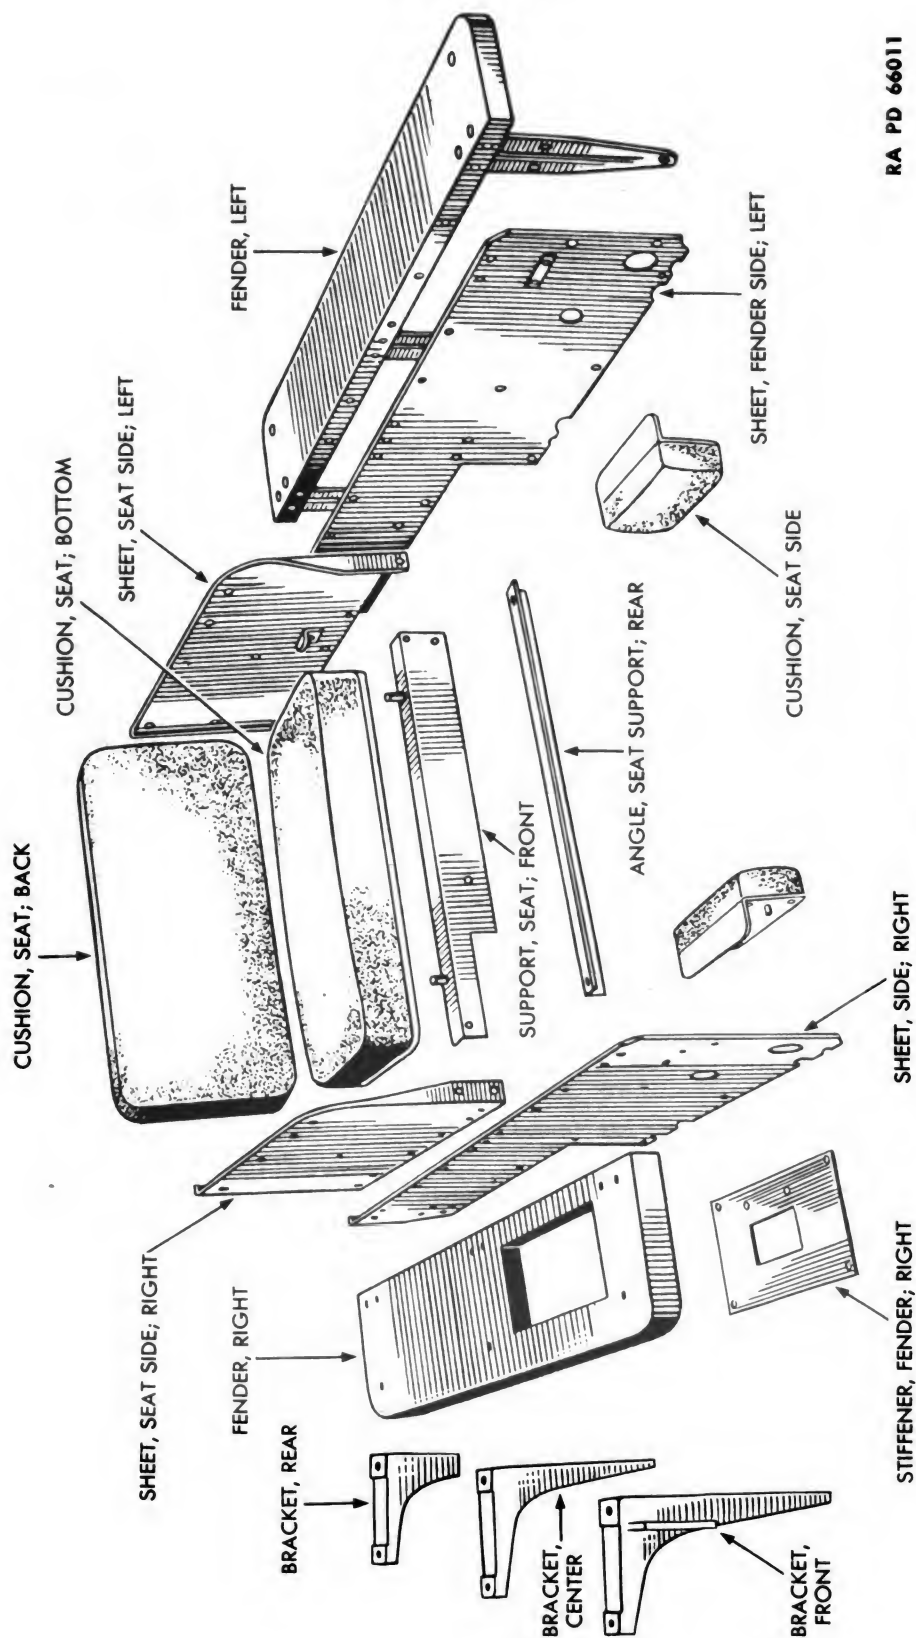

Figure 196 — Seat and Fenders (Lot 1) Parts
Use two $\frac{3}{4}$ -inch open-end wrenches to remove 2 bolts, nuts, and lock washers which hold footrest to fender. Lift off footrest. **NOTE:** Lot 1 tractors are equipped with one-man seat and fenders. To facilitate removal and installation, components of the lot 1 seat and fenders are illustrated in figure 196.
b. Procedure. Throughout the operations in this paragraph, bolt and cap screw holes of attaching parts should be placed in alignment by inserting and leaving one or more assembly punches into holes while initial bolts or cap screw are installed. **NOTE:** Lot 1 tractors are equipped with one-man seat and fenders. To install seat and fenders on lot 1 tractors, refer to figure 196. Procedure outlined here covers four-man seat and fenders, which are used on lots 2, 3, and 4.